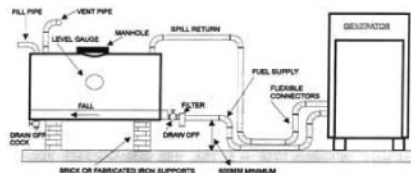

Fig. 5.1. Without Intermediate Fuel Tank
5.5. Without Intermediate Fuel Tank (Fig. 5.1.)
The simplest arrangement would be to supply the engine directly from the bulk storage tank and return the injector spill directly to this tank. A typical arrangement for this is shown in Fig. 5.1. The principle limitations of this method are: In order to gravity feed the engine, the outlet from the bulk storage tank must be a minimum of 600 mm above the generator plinth level; The pressure drop of the spill return pipe must not exceed that detailed in the Engine Data sheet. The supply pipe work from the bulk storage tank to the engine must be sized to allow the total volume of fuel required by the engine to flow under gravity.